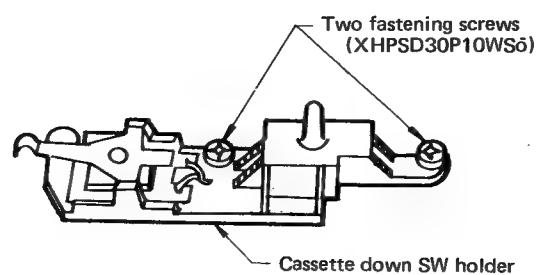

Figure 7-32.
- 3) Remove the two screws (XHPSD30P10WSō) which fasten the cassette down SW holder and move the holder slightly. (Be careful not to cut off the leads of the cassette down SW.) (See Figure 7-32.)
- 4) Remove the two screws (6) (XBPSD30P05J00) fastening the reel motor and, holding the reel motor from the underside of the chassis, remove the reel motor. At this time, keep reel idler (4) moved to the left or right.